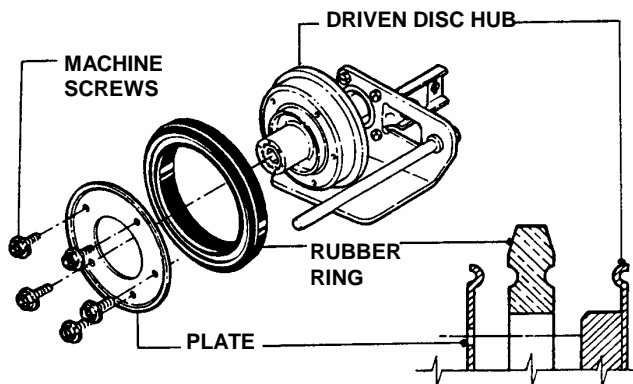

FIGURE 4.11
3. Remove the five machine screws and plate which secure the rubber ring to the driven disc hub. See Figure 4.11.